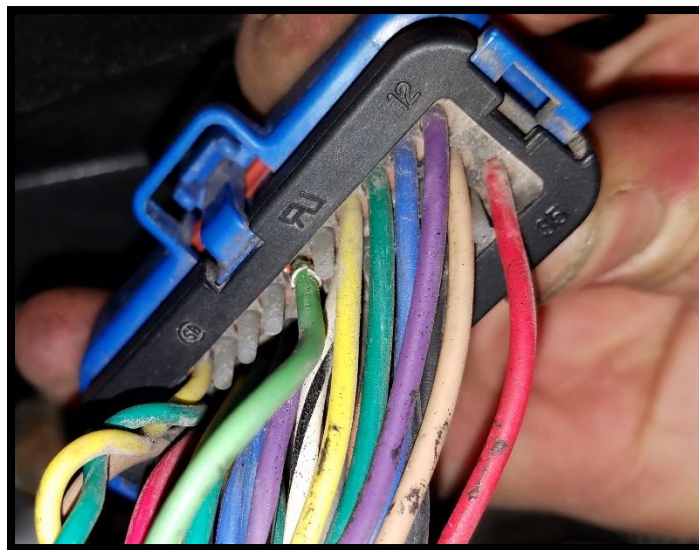

FIG. 7-1
18. De-pin C1.7 (LTGN-18GA) from blue connector (cavity 7) Remove red lock on inside connector on Hadley ECU, cut terminal off and crimp a 0460-202-16141 deutsche pin onto wire, using approved crimping tool#AID18880 and making sure wire strands can be seen in hole in terminal. Insert deutsche pin into cavity 1 of item 2 (connector without any wires) on Hadley ECU 6" Extension harness. Refer to FIG. 7-1. Place 770678-1 cavity plug into cavity 7 of blue Hadley ECU connector.
19. De-pin C1.12 (VT-18GA) from blue connector (cavity 12) on Hadley ECU, cut terminal off and crimp a 0460-202-16141 deutsche pin onto the wire, using approved crimping tool #AID18880 and making sure wire strands can be seen in hole in terminal. Insert deutsche pin into cavity 2 of item 2 (connector without any wires) from Hadley ECU 6" Extension harness. Place 770678-1 cavity plug into cavity 12 of blue Hadley ECU connector.